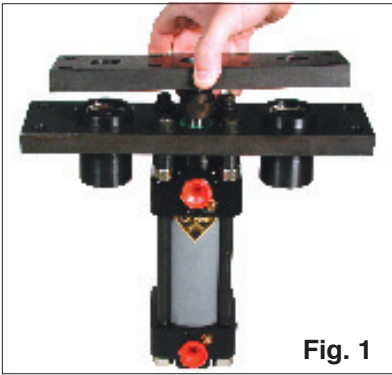

Fig. 1
2. Place the modified upper plate onto the DADCO HP Two Post Direct Lift (Fig. 1).